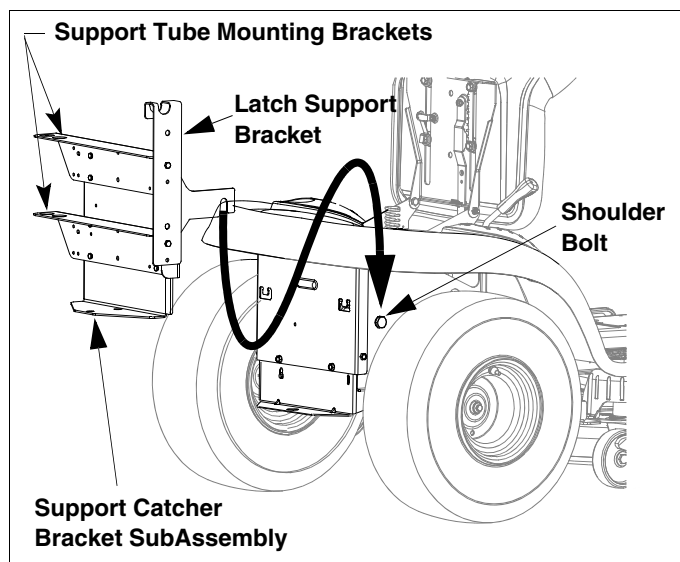

Figure 8
- Locate Figure 8 in "Section 3: Assembly & Operation" of the Owner's Manual included with your grass bagger accessory.
- Follow the instructions starting at the step just above Figure 8. Attach the support tube mounting brackets and the latch support bracket to the Support Catcher Brackets Subassembly installed on the back of the tractor. Do not tighten any hardware, leave slightly loose
- Position the hooked ends of the Support Catcher Bracket Subassembly to the outside of the rear tractor frame and over the existing shoulder bolts on both sides as shown in Figure 8.
NOTE: Figure 8 shows the completed catcher support bracket assembly which will be assembled in the following steps.